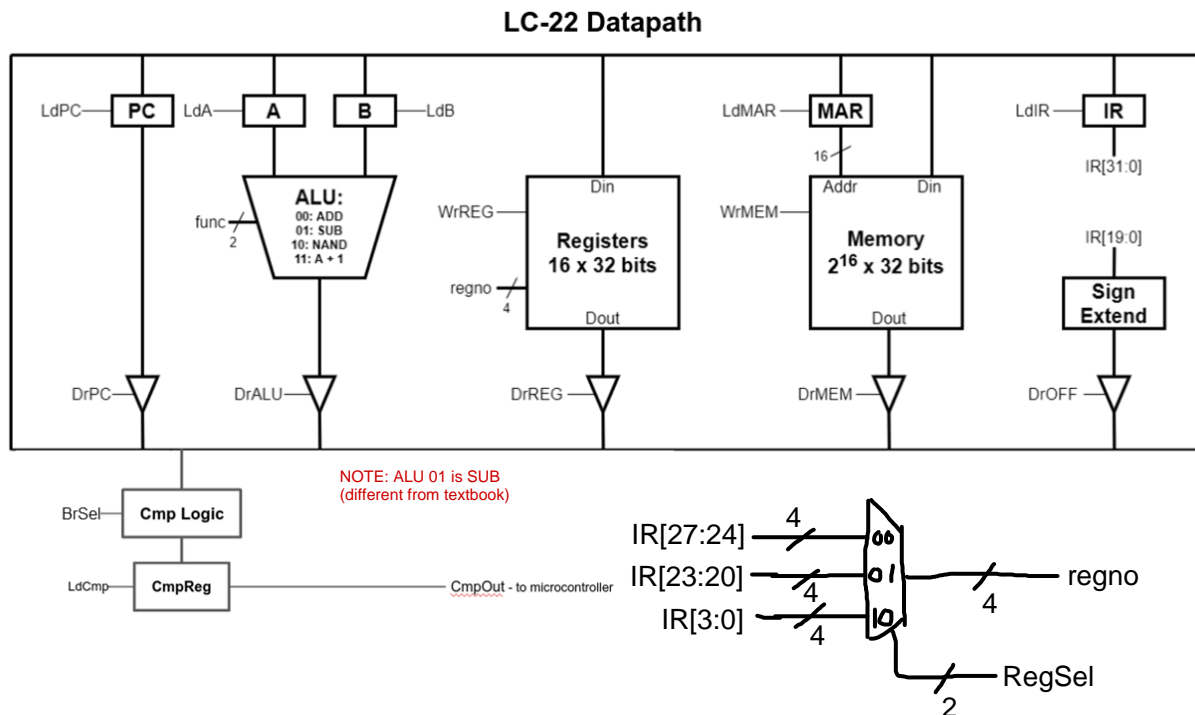

Figure 1: Datapath for the LC-22 Processor
2. Using CircuitSim, implement the LC-22 datapath. To do this, you will need to use the details of the LC-22 datapath defined in Appendix A: LC-22 Instruction Set Architecture. You should model your datapath on Figure 1.
The “comparison logic” (cmp logic) box in Figure 1 is responsible for performing the comparison logic associated with the BLT and BGT instructions. The comparison logic should read the current value on the bus plus the BrSel bit from the FSM. When executing BLT and BGT, you should compute $A - B$ using the ALU. While this result of the ALU is being driven on the bus, the comparison logic should read the result $A - B$ and output a single “true” or “false” bit for either the condition $A > B$ or $A < B$ depending on the BrSel input.
2. Implement the Microcontrol Unit using CircuitSim. The appendix contains all of the necessary information. Take note that the input and output signals on the schematics directly match the signals marked in the LC-22 datapath schematic (see Figure 1).
3. Connect the completed control unit to the datapath you implemented in Phase 1. Using Figures 1 and 2, connect the control signals to their appropriate spots.